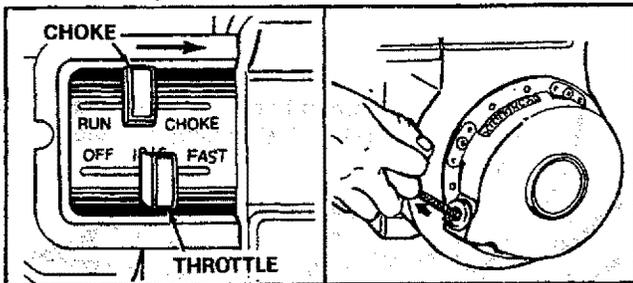

FIGURE 9.
2. Place choke lever in CHOKE position. See figure 9.
4. Grasp starter handle (see figure 9) and pull rope slowly until engine reaches start of compression cycle (rope will pull slightly harder at this point). Let the rope rewind slowly.
1. Move throttle control lever to OFF position. See figure 9.